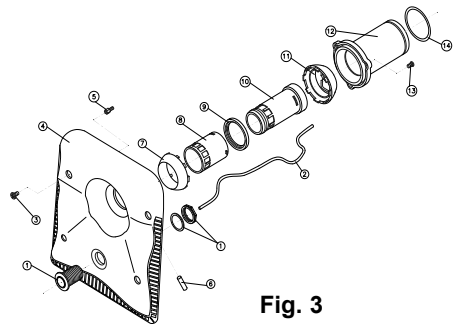
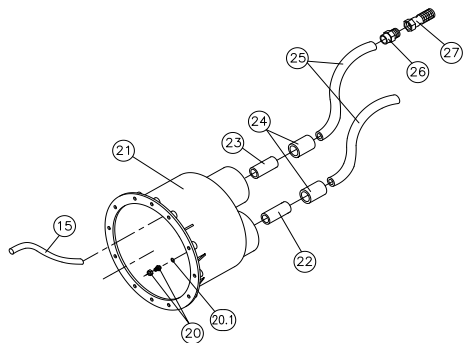

Fig. 3
Fig. 2
El tubo transparente (nº 2, fig. 2) lo conectaremos al microinterruptor situado en la parte superior derecha del cuadro, es muy importante asegurarse de que el tubo transparente, no queda doblado.
**3.1** To fix the niche (no.21, fig.2) in a concrete wall, only the instructions given in chapter 2 (place of installation) need be followed.
**4.1** The niche is supplied with pipes no.22 and 23, (fig.2) already installed. Additionally, one of the hoses (no.24, fig.2) is supplied glued inside pipe no.22.
This line is made up of a hose (no.24), a flexible pipe (no.25), a male screw fitting (no.26) and a foot valve (no.27). All these parts are supplied fitted, so it is only necessary to glue the end of the hose (no.24) to the pipe (no.23) which is already fitted in the niche. It is important to fix the air line pipe to the wall of the housing so as to ensure that foot valve is in the upper part. This is so as to avoid sucking up dirt (see fig. 8, page 20). Lastly, install the flexible pipe (no.15, fig. 2) pressing it inside the nozzle in the interior of the niche (see fig.5, page 17).
This line is made up of a pipe (no.22), a hose (no.24) and a flexible pipe (no.25). As the pipe (no.22) and the hose (no.24) are already installed in the niche, you only need to glue the pipe (no.25) to the hose (no.24). Before gluing the end of the pipe (no.25) to the hose (no.24), fit the transparent pipe (no.2, fig.3) into the pneumatic line and pass the end of the transparent pipe (no.2, fig. 3) through the hole in the niche. Fix it in position with the clamp (no.20 and 20.1, fig.2). Once this is complete, glue the pipe (no.25) to the hose (no.24). The end of the transparent pipe (no.2, fig.3) will be connected to the microswitch located on one side of the hydropneumatic cut out included with the HIDROJET equipment.